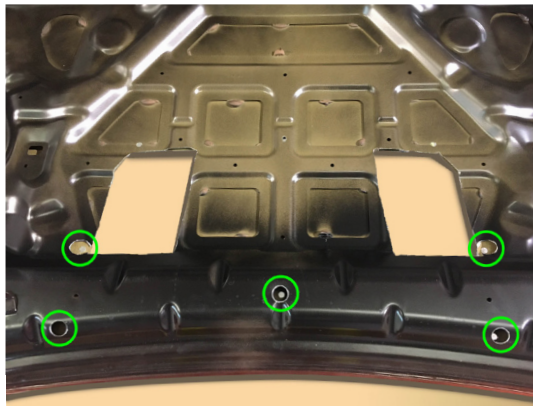

Figure 10
7. Flip hood upside down to gain access to under side. Using a 1" hole saw, enlarge indicated holes only through the inner hood structure. (Figure 10) **Do NOT enlarge the holes on the outer surface of the hood.** This is only to allow the access for the attachment hardware and the 13mm deep well socket when tightening the bolts in these locations.